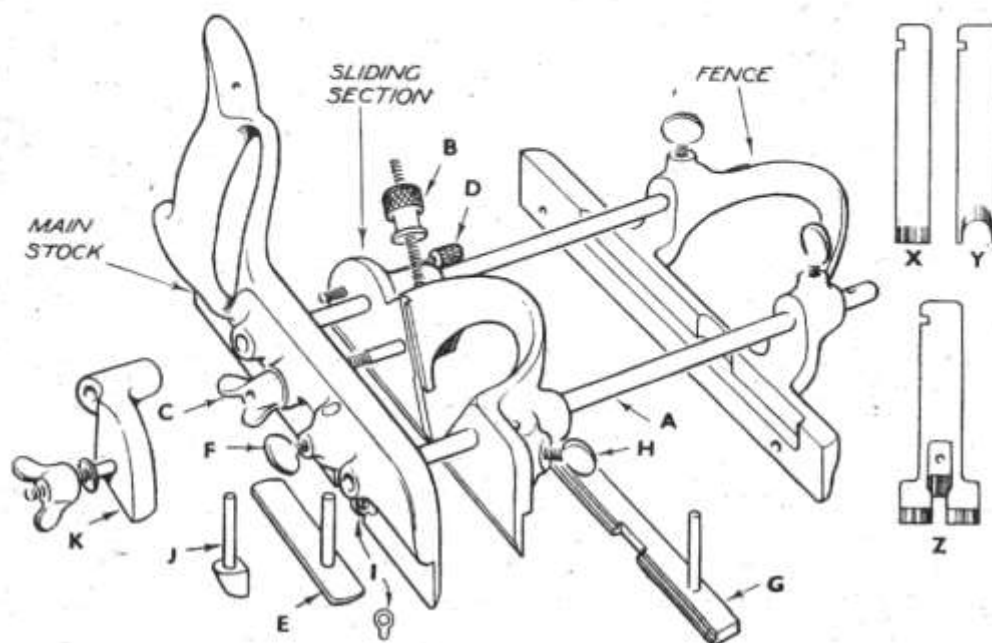

FIG. 2. PARTS OF THE PLANE LETTERED FOR EASY REFERENCE.
Parts of the Plane.—Fig. 2 shows the parts of the plane set out for easy reference. The MAIN STOCK with the two Arms (A) is used in all operations. The SLIDING SECTION is added for all operations except when the $\frac{1}{4}$ in. and $\frac{3}{16}$ in. cutters are in use. It cannot be used with the latter because the combined thickness of the two sole plates would be greater than the cutter width. Consequently the sliding section is omitted and the clamping bracket (K) used instead. The FENCE is used for all work where the cutter works parallel with an edge.
It is frequently necessary to work a bead along tongued boards to produce the familiar "T and G" effect (incidentally the underlying idea in this is that, if the wood shrinks causing the joint to open, the gap will not be noticeable). The normal fence cannot be used because of the tongue, and the special beading stop (G), Fig. 2 is necessary. This fits beneath the sole of the sliding section as in Fig. 7, and its position ensures that the quirk is not worked at the outer edge. Although termed a "stop," it is really more in the nature of a fence since its edge bears against the edge of the wood. It is thin, and care must be taken not to let the plane slip upwards and away from you, especially during the first few cuts.
Tongueing.—The special cutter (Z), Fig. 2, is used for this. The depth stop cannot be used since the wood at both edges is automatically planed away. Instead the special stop screwed to the cutter is set to the required depth. By the way, make sure that this is square after the screw has been tightened, because the turning movement is liable to twist it slightly.